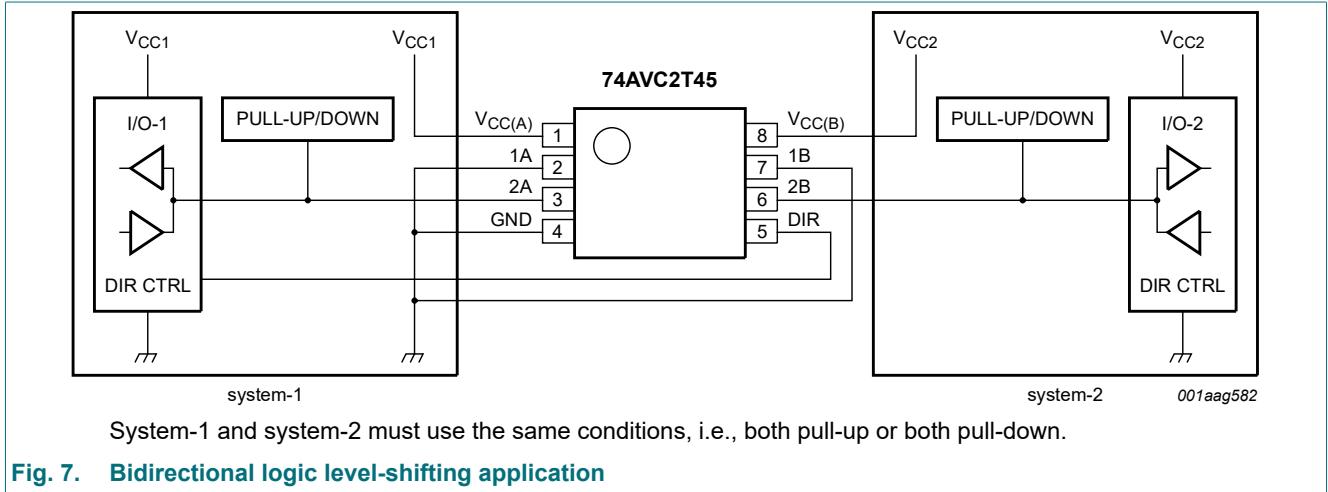

Fig. 7. Bidirectional logic level-shifting application
Fig. 7 shows the 74AVC2T45-Q100 being used in a bidirectional logic level-shifting application. Since the device does not have an output enable (OE) pin, the system designer should take precautions to avoid bus contention between system-1 and system-2 when changing directions.